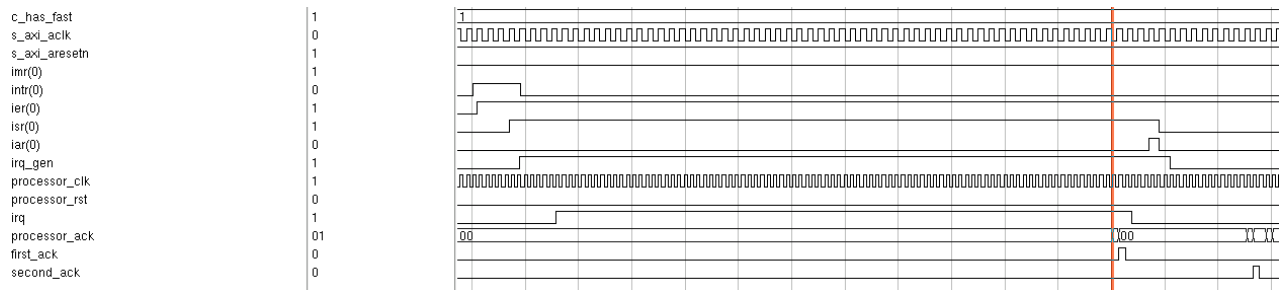

Figure 3-7: Input Intr - Edge Sensitive (Rising), C_HAS_FAST = 1 and IMR(i) = 1
- Configured Input Interrupt (Intr) for Edge sensitive (rising), include fast logic to High (C_HAS_FAST = 1) and mode set to fast interrupt mode (IMR(i) = 1). Timing diagram is shown in Figure 3-7.